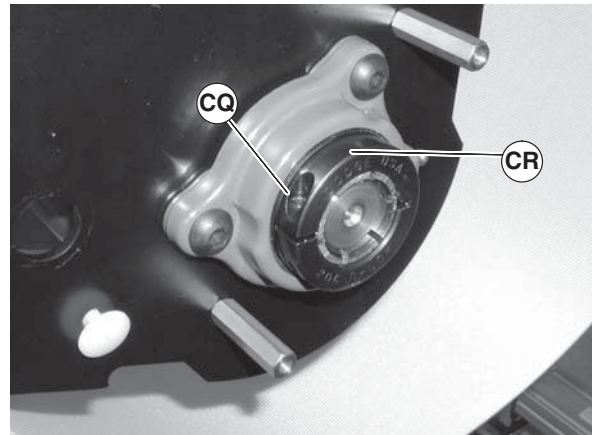

Figure 81
- Loosen clamp screw (Figure 81, item CQ) and remove bearing collar (CR).